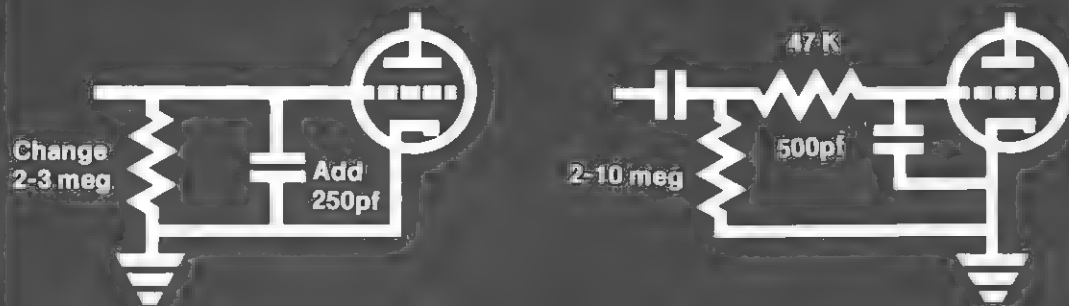

Fig. 17
4. Capacitors, RF chokes and resistors can be used in combinations to make filters to eliminate the interference. For circuits such as those shown in Figure 16, use a choke of 2 to 6 microhenries and a capacitor of about 10 picofarads. A combination RF filter is shown in Figure 17 with the recommended values.
A combination RF filter is shown in Figure 17 with the recommended values.